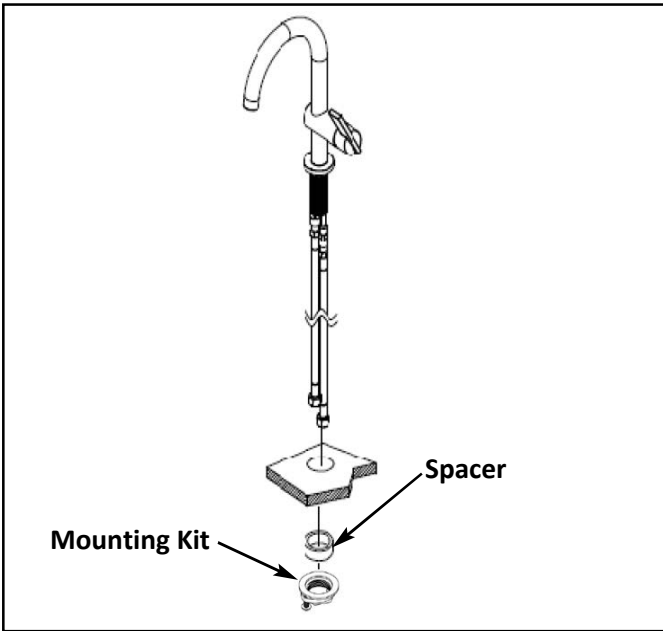

Figure 1
1. Place the spout hoses, one at a time, and secure spout into place with SPACER and MOUNTING KIT. **See Figure 1.**